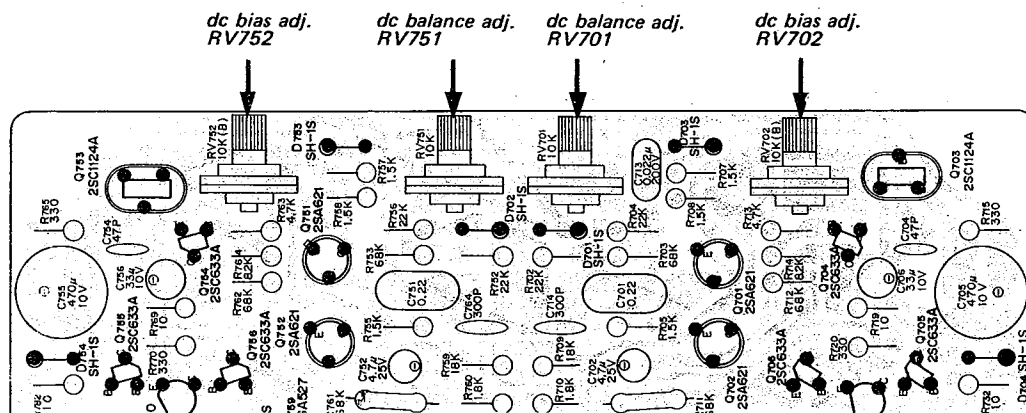

Fig. 3-17. Parts location
1. Set the semifixed resistors (Fig. 3-17) on the power-amplifier board as follows: